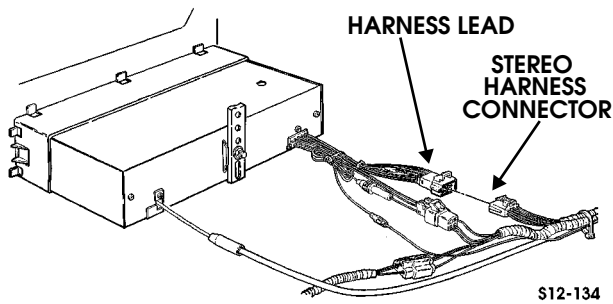

Figure 12-111: Radio Connections
2. Disconnect stereo harness lead from harness connector (Figure 12-111).
7. Connect harness lead to stereo harness connector (Figure 12-111).
2. Disconnect harness lead from stereo harness connector (Figure 12-111).